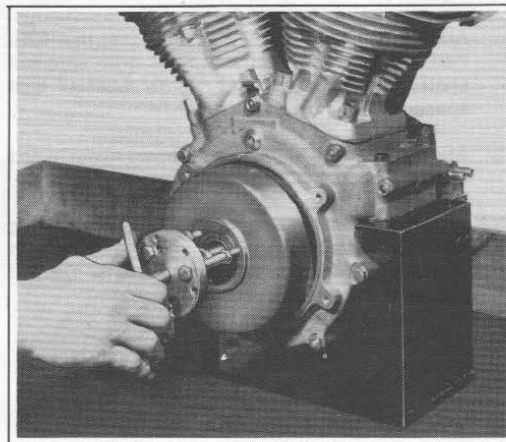

Figure 5-15. Pulling Alternator Rotor
7. See Figure 5-15. Using Puller, Part No. 95960-52A, pull the alternator rotor from the engine sprocket shaft.